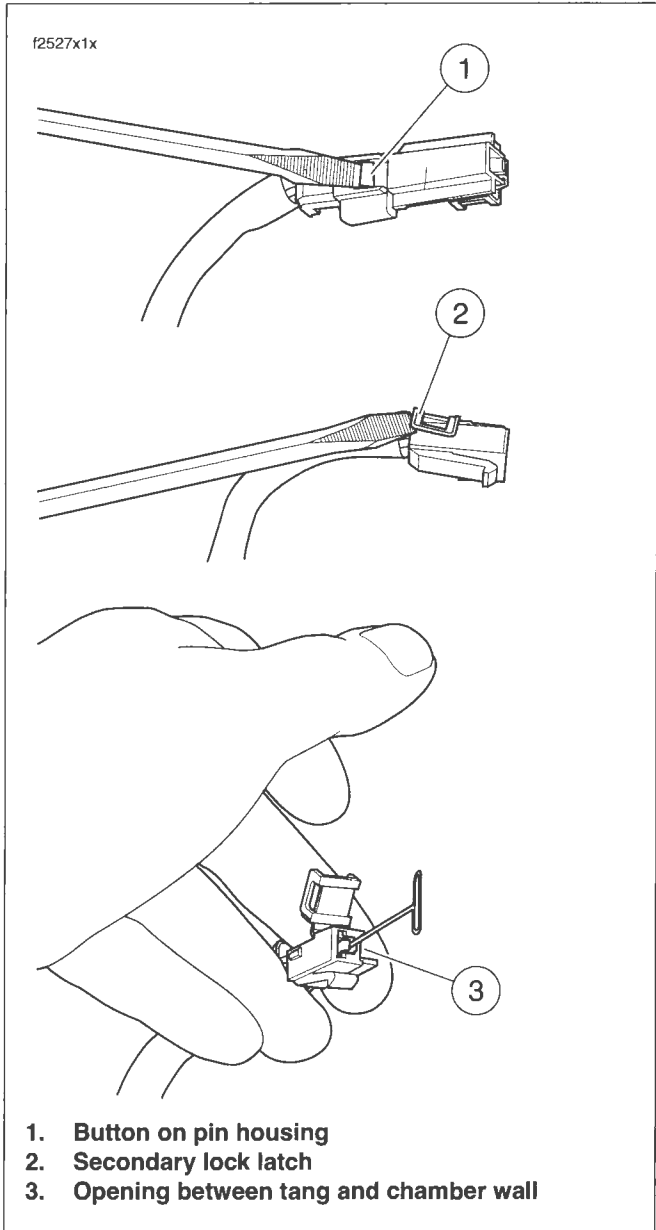

Figure B-29. Remove Socket Terminal
See Figure B-29. Using small flat blade screwdriver, depress button (1) on pin housing (red wire) side of the connector and pull apart the pin and socket housings.
1. See Figure B-29. Bend back the latch (2) slightly and free one side of secondary lock, then repeat to release the opposite side. Rotate the secondary lock outward on hinge to access terminal in chamber of connector housing.
2. On the mating end of the connector, note the tang in the square shaped opening centered next to the terminal. Gently insert the point of a stick pin or large safety pin into the opening (3) between the tang and the chamber wall until it stops.